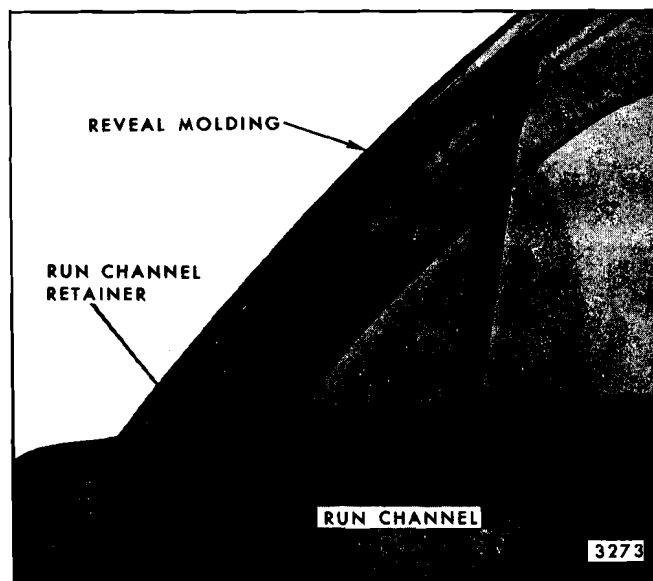

Fig. 9-33—Tail Gate Upper Glass Run Channel Retention
2. Once run channel has been removed, the retainer attaching screws are exposed. (See Fig. 9-33). The retainer can be adjusted by loosening attaching screws, shifting retainer to desired position and tightening screws. If